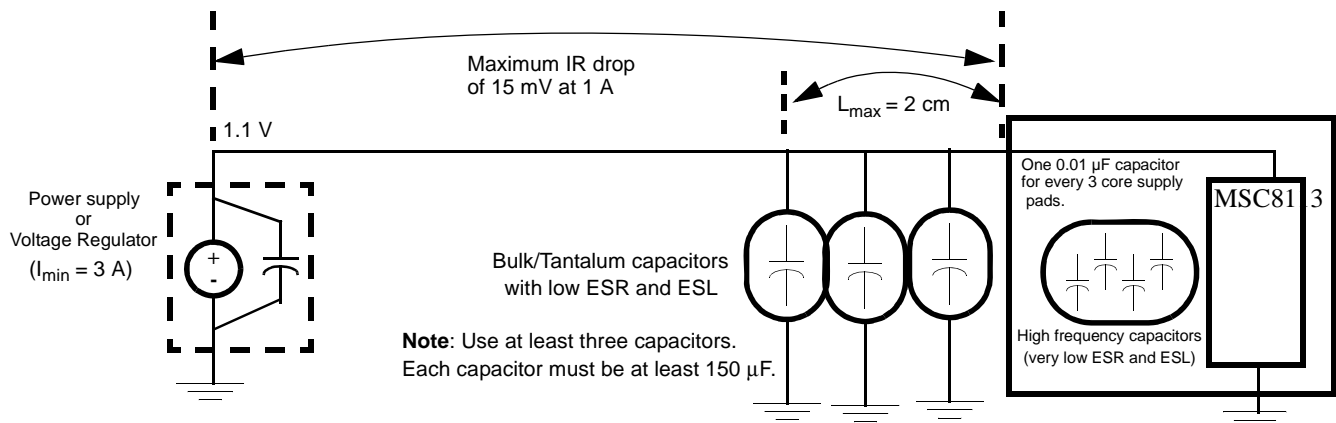

Figure 33. Core Power Supply Decoupling
Figure 33 shows the recommended power decoupling circuit for the core power supply. The voltage regulator and the decoupling capacitors should supply the required device current without any drop in voltage on the device pins. The voltage on the package pins should not drop below the minimum specified voltage level even for a very short spikes. This can be achieved by using the following guidelines:
- Decouple the supply using low-ESR capacitors mounted as close as possible to the socket. **Figure 33** shows three capacitors in parallel to reduce the resistance. Three capacitors is a recommended minimum number. If possible, mount at least one of the capacitors directly below the MSC8112 device.